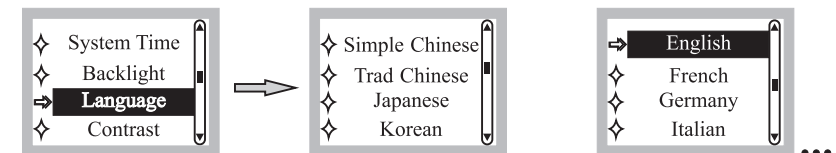

Fig. 19
- (5) Changing Language, Fig. 19.